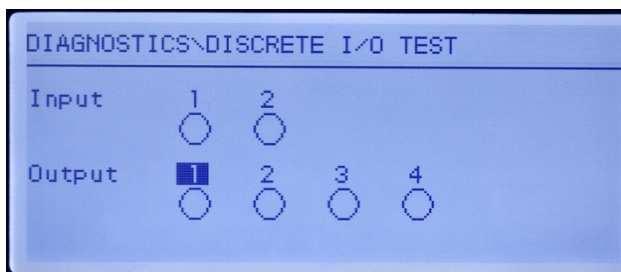

Figure 5-7: Discrete I/O Test Screen
2. Press ENTER to continue to the diagnostic screen. When viewing the test screen, the input status will be shown at the top of the display and the output status will be shown at the bottom of the display (Figure 5-7). Focus is shown on Output #1 first.